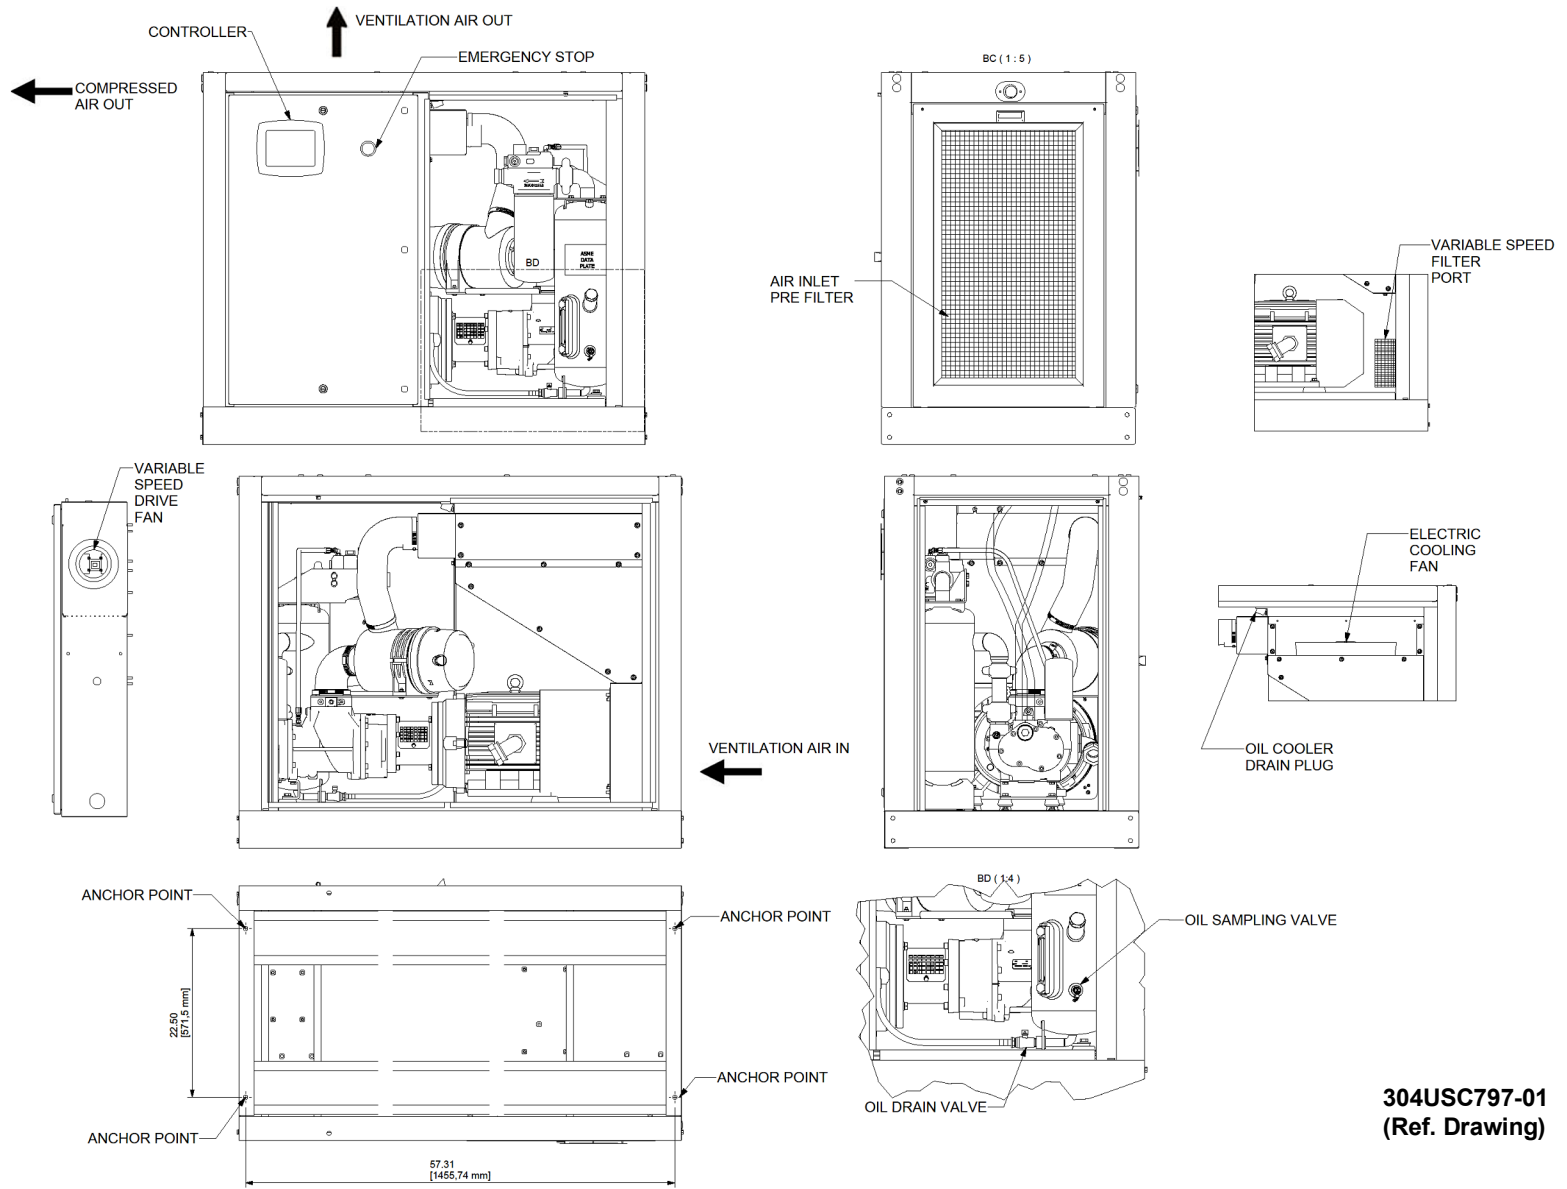

Figure 1-2 – COMPRESSOR ILLUSTRATION – VARIABLE SPEED
AIR-COOLED UNIT - A combination oil/air cooler is supplied as standard equipment on all air-cooled units. An electric fan module supplies the ventilation needs for the oil/air cooler (Figure 1-2, page 10). Air is drawn into the unit through the main intake grill and discharged through the cooler cores. Do not block the air flow to and from the unit. Allow three and one half (3-1/2) feet to the nearest obstruction on the control box end of the unit. Allow two (2) feet to the nearest obstruction above and on other sides of unit.
2. **Package Inlet Filter** - Figure 1-2, page 10. Inspect the Pre-Filter to be sure it is clean. Refer to Section 7, page 65 for complete servicing instructions